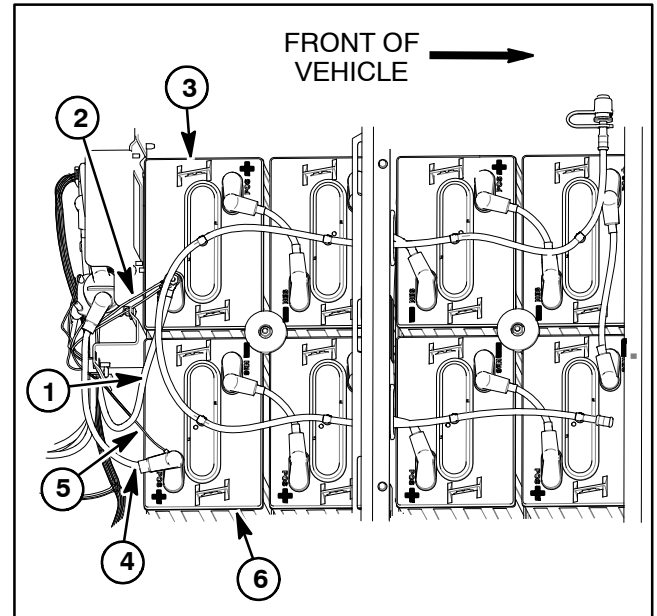

Figure 42
IMPORTANT: For assembly purposes, note that batteries are installed with the positive terminals toward the outside of the vehicle and the negative terminals toward the center of the vehicle (Fig. 42).
IMPORTANT: Make sure that batteries are installed with the positive terminals toward the outside of the vehicle and the negative terminals toward the center of the vehicle (Fig. 42).
4. Use battery lift strap (see Special Tools in this chapter) to set batteries on the battery supports with battery posts properly orientated (Fig. 42). Make sure that battery hold down rods (item 8) are positioned to allow installation of battery hold downs.
5. Install two (2) battery hold downs and flange nuts to secure batteries to vehicle.
6. Install all of the battery cables used to connect the battery pack (Figure 42). Make sure that cables are connected to correct battery terminal noting battery polarity. Install hex nut on each battery terminal to secure cable to battery and torque nuts from **95 to 105 in-lb (10.8 to 11.8 N-m)**.